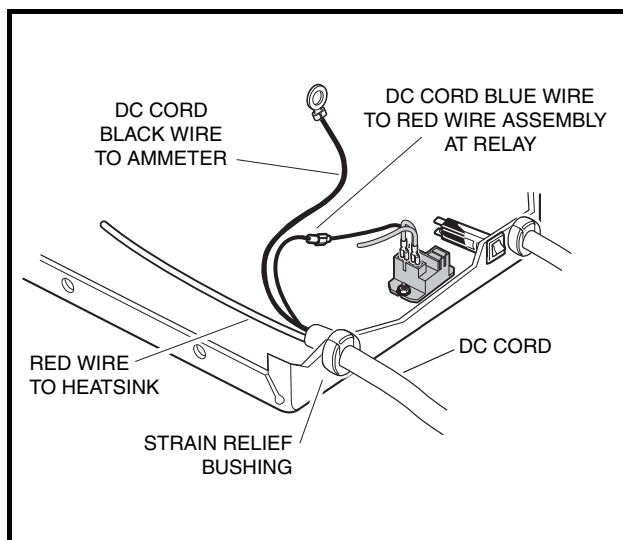
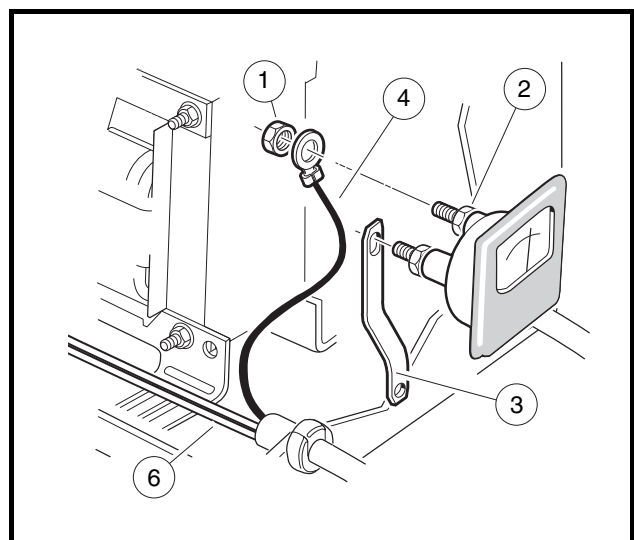

Figure 3-24 DC Cord
Figure 3-25 DC Cord Replacement
3. To check the continuity of the DC cord, disconnect the black wire of the DC cord from the ammeter (**Figure 3-24, Page 3-27**).
3. Remove the DC cord black wire (4) from the ammeter by loosening the nut (1). Support the terminal as the nut is loosened to prevent rotation of the connection (Figure 3-25, Page 3-27).
4. Remove nut attaching the red wire (6) of the charger DC cord to the heatsink.
7. Disconnect the DC cord blue wire from the red wire assembly that connects to the charger relay (Figure 3-24, Page 3-27).
8. Using pliers, squeeze the strain relief bushing and remove the DC cord (Figure 3-24, Page 3-27).
2. Attach the red wire of the new DC cord to the center terminal of the heatsink and tighten the nut to 18 in-lb (2.0 N·m) (**Figure 3-24, Page 3-27**).
3. Attach the blue wire of the new DC cord to the red wire assembly at the charger relay (**Figure 3-24, Page 3-27**).
4. Attach black wire (4) of the new DC cord to ammeter. Install nut (1) onto post of ammeter slightly more than finger tight. While holding the inside nut (2), tighten the outside nut (1) 1/4 turn (**Figure 3-25, Page 3-27**). **See following CAUTION.**